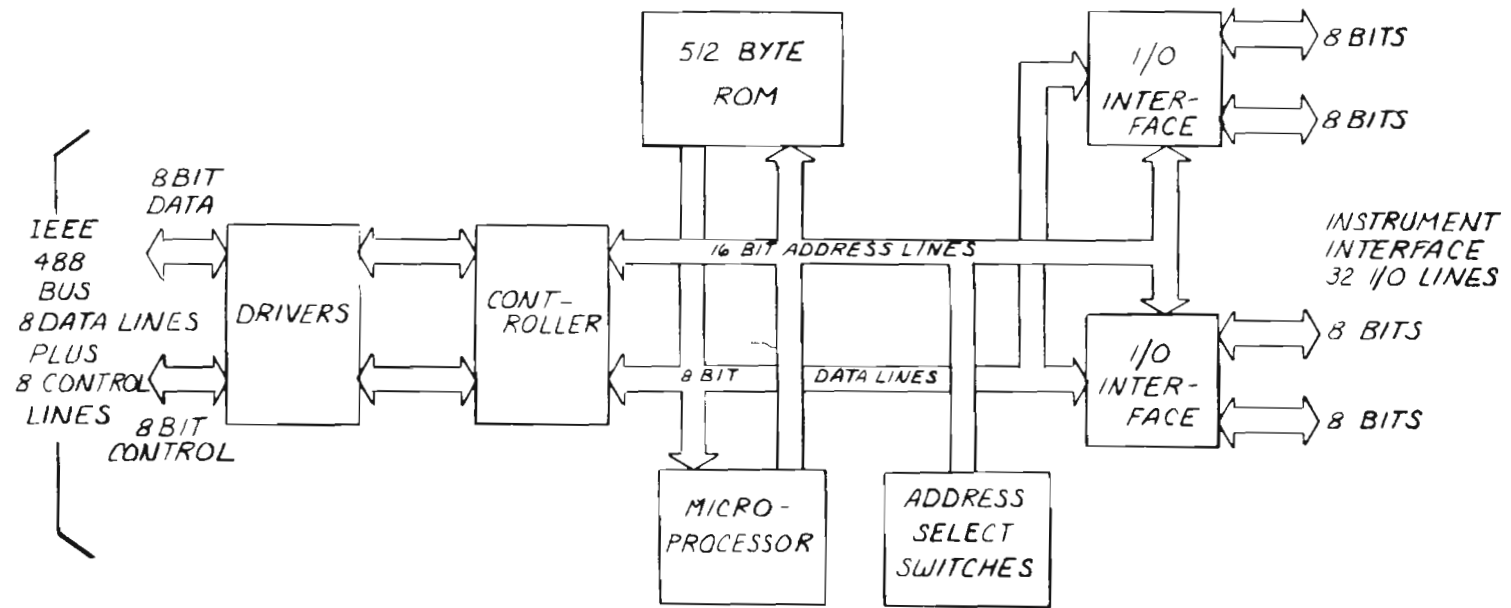

Figure 2-1. DBA-488, Block Diagram
2.2 BLOCK DIAGRAM DESCRIPTION (See figure 2-1)